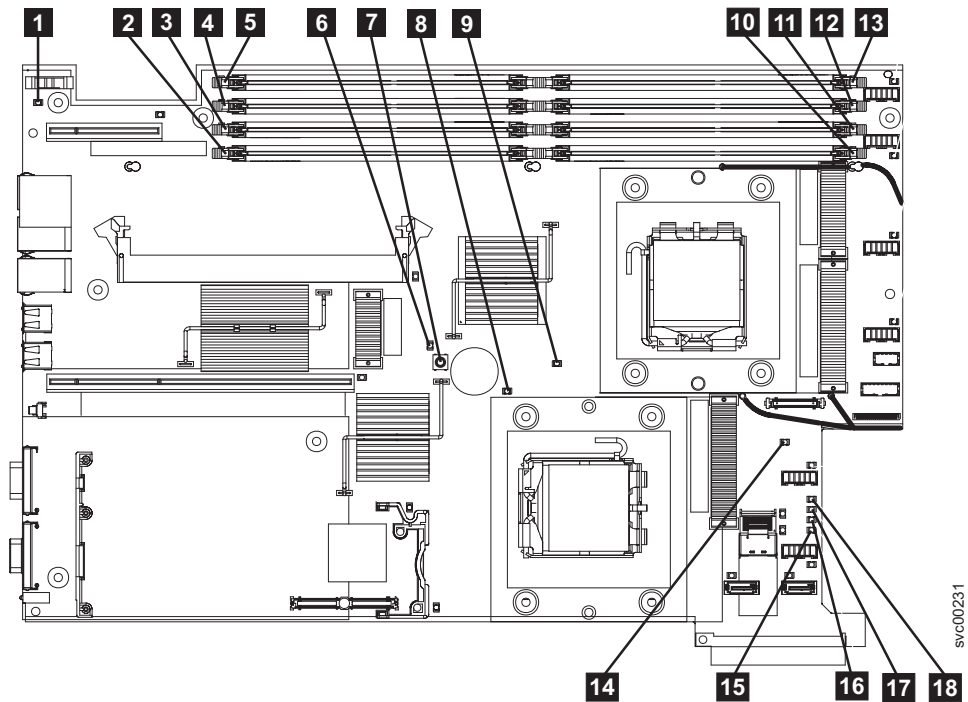

Figure 92. SAN Volume Controller 2145-8G4 system board LEDs
**YES** Refer to Table 36 on page 403 and perform the action specified for the specific light path diagnostics LEDs, then go to step 3 on page 404. Some actions will require that you observe the state of LEDs on the system board. Figure 92 on page 402 shows the location of the system board LEDs. The fan LEDs are located adjacent to each FAN. To view the LEDs you will need to do the following:
- d. Press the light path diagnostics button (7 in Figure 92 on page 402).